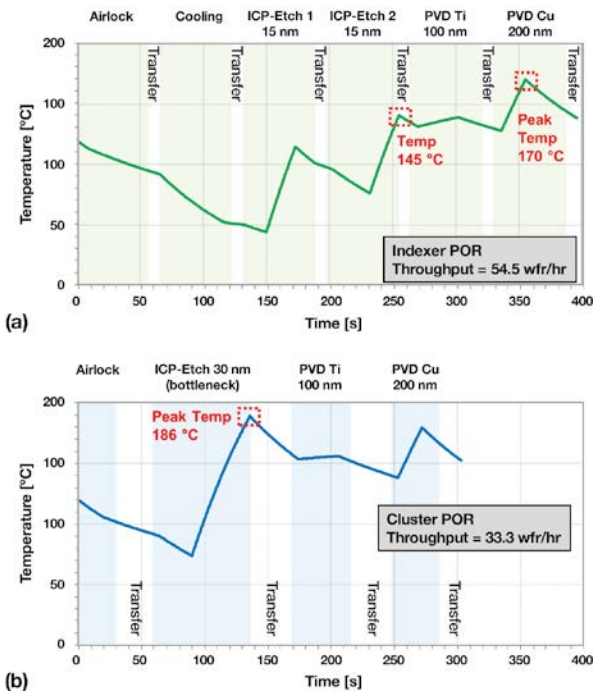

Figure 1a & 1b: Thermal profiles of a 300 mm Silicon wafer processed with UBM/RDL POR on the HEXAGON (a) and on the CLUSTERLINE® (b).
The typical process-of-records (POR) used in UBM/RDL production are reported in Figure 1 along with the simulated thermal profiles of a 300 mm Silicon wafer. Despite the tool configurations differ by the number of process chambers used, the process output in terms of (1) degas time and temperature, (2) etching amount and (3) PVD stack thickness remains the same. Based on the substrate properties, the thermal model calculates the heating rates of the different plasma processes involved, as well as the cooling rates during transfer and in-situ cooling provided by “arctic” etch and Ar backside gas. In the HEXAGON tool, the first process chamber in vacuum fulfills the role of cooling station. Here the substrate is mechanically clamped to the chilled pedestal for 50 sec. At the same time, Argon is applied at the wafer backside to increase the cooling efficiency. The combination of the cooling step and split etch approach results in a substrate temperature of 145°C (Figure 1a). On the other hand, the absence of the cooling station on the CLUSTERLINE® and the full etch amount performed in a single chamber result in a 40°C higher peak temperature (Figure 1b). In general, a lower temperature after the etching process is another beneficial aspect that helps to reduce outgassing and the related risk of recontamination, thus contributing to a better Rc control. The POR run on the HEXAGON results in a peak temperature of 170°C at a throughput of 54.5 wafers/hour. The CLUSTERLINE® POR reaches a peak temperature of 186°C and 33.3 wafers/hour throughput.